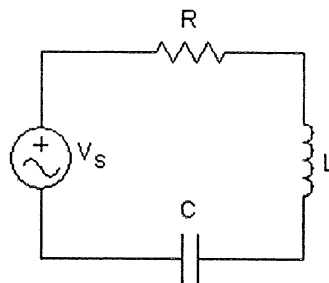

Figure 2
- b) Figure 2 illustrates a series circuit of resonance with $V_s = 150 \text{ V}$, $R = 20 \Omega$, $L = 0.26 \text{ H}$ and $C = 200 \mu\text{f}$.